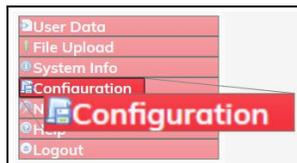

Figure 289: Configuration link
4. On the **Menu** list, click the **Configuration** link. Figure 289